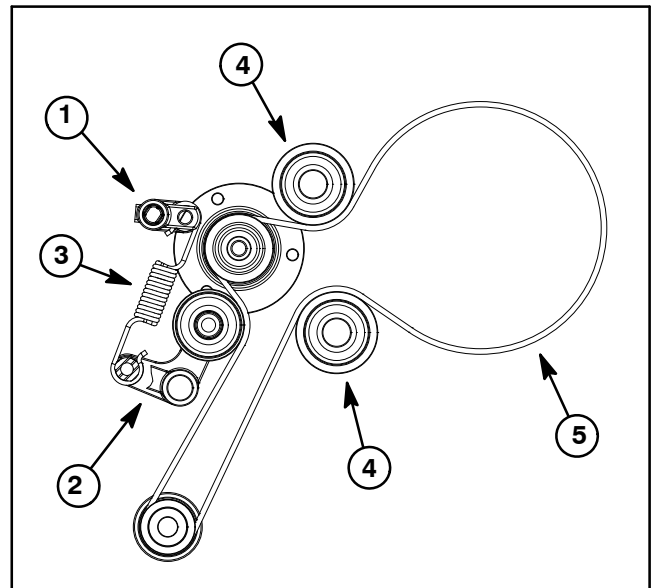

Figure 38
B. If extension spring (item 4) was removed, make sure that ends of spring are orientated as shown in Fig. 38.
C. If main drive idler (item 5) was removed, secure idler to transmission housing with shoulder screw (item 13). Torque shoulder screw from **15 to 17 ft-lb (21 to 23 N-m)**.